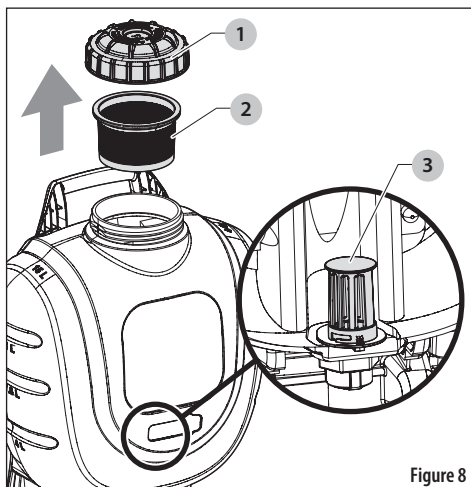

Figure 8
1. Unscrew the cap (1) and place it on a clean surface where it will not collect dirt, dust, grass clippings, or other debris. See *Figure 8*.
2. Remove the filter basket (2) and remove any debris. Place the filter basket (2) on a clean surface where it will not collect dirt, dust, grass clippings, or other debris.
4. Check to make sure the in-tank filter (3) is in place, the mesh is intact, and it is not clogged with debris. See *In-Tank Filter Maintenance*.